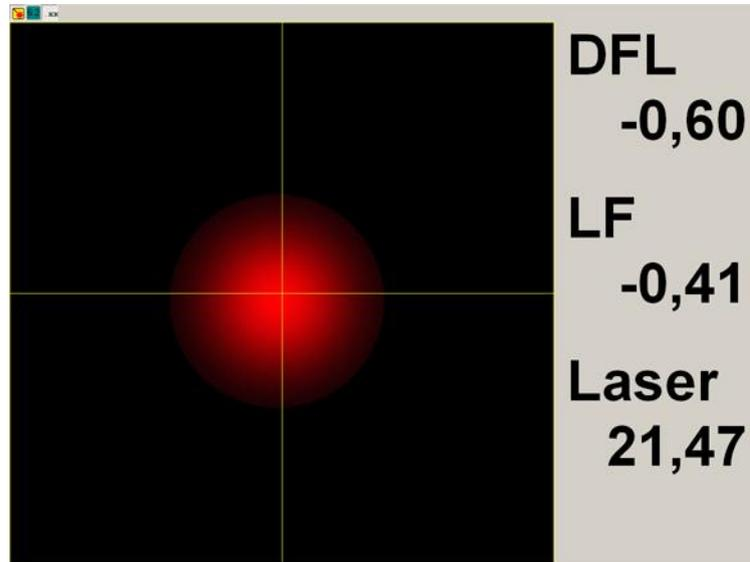

Fig. 8-33. Laser spot adjusted at the center of the photodiode
- Adjust the laser spot at the center of the photodiode (see Fig. 8-33) by moving the photodiode with the screws 4 and 5. For higher precision, find a position where the signals **DFL** and **LF** are close to zero, with the total signal **Laser** being sufficiently high.